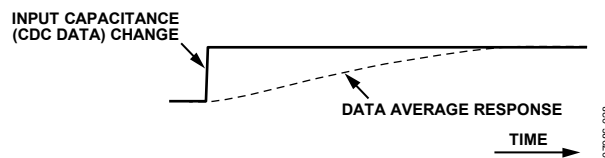

Figure 39. Data Average Response to Data Step Change
| 3 2 1 0 | ThrSettling | <p>Determines the settling time constant of the data average and thus the settling time of the adaptive thresholds.</p> <p>The response of the average to an input capacitance step change (that is, response to the change in the CDC output data) is an exponential settling curve characterized by the following equation:</p> $Average(N) = Average(0) + Change(1 - e^{-N / TimeConst})$ <p>where: Average(N) is the value of average N complete CDC conversion cycles after a step change on the input Average(0) is the value before the step change TimeConst can be selected in the range between 2 and 65,536 conversion cycle multiples, in steps of power of 2, by programming the ThrSettling bits.</p> $TimeConst = 2^{(ThrSettling + 1)}$ <p>See Figure 39.</p> | | | | | | | | | | | | | | | | | | | | |